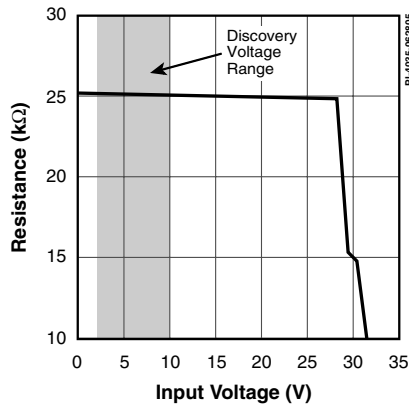

Figure 1. Discovery Impedance.
**Operation:** Fundamentally, a PoE load or Powered Device (PD) must fulfill three functions in order to act in conjunction with the sending end Power Sourcing Equipment (PSE). The functions are discovery, classification and under-voltage lockout.
**Discovery Phase:** When a PoE-enabled Ethernet cable is plugged into a PD, the PSE interrogates the device to determine if it is PoE-enabled. This period is termed the discovery phase. During the discovery phase, the PSE applies a voltage ramp to the PD and looks for a characteristic impedance from the load (25 kΩ). If the correct impedance is not detected, the PSE assumes that the load is not PoE-enabled and shuts down the PoE sending end. The system then operates as a standard Ethernet connection. If the signature impedance is detected, the PSE moves on to the classification phase. The signature identification voltage is a ramp voltage between 2.5 V and 10 V. A 24.9 kΩ resistor provides the correct signature impedance for discovery (see Figure 1).